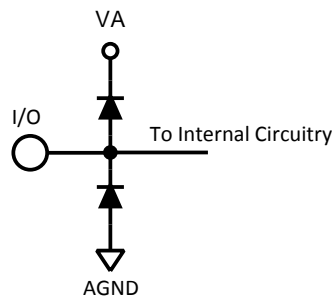

Figure 4. Analog Input Protection
(1) The analog inputs are protected as shown in Figure 4. Input voltage magnitudes beyond the supply rails will not damage the device, provided the current is limited per Note 4 under the Absolute Maximum Ratings Table. However, input errors will be generated if the input goes above V_A and below AGND.
(2) Test limits are specified to AOQL (Average Outgoing Quality Level).
(3) Typical figures are at $T_A = 25^\circ\text{C}$, and represent most likely parametric norms at the time of product characterization. The typical specifications are not ensured.
The analog inputs are protected as shown in Figure 4. Input voltage magnitude up to 500 mV beyond the supply rails will not damage this device. However, input errors will be generated if the input goes above VA and below AGND.